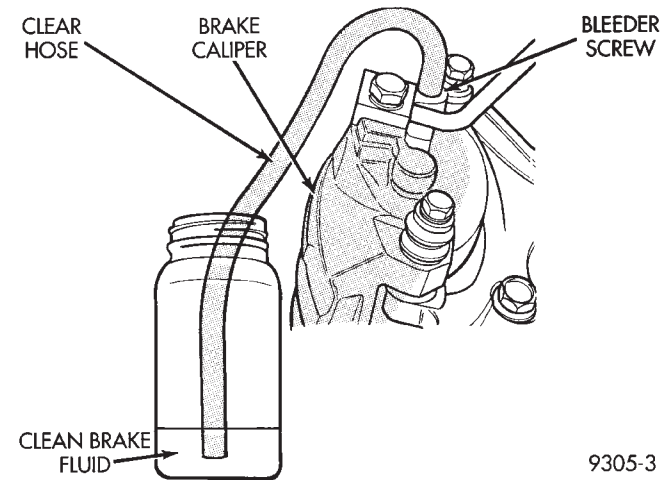

Fig. 32 Proper Method for Purging Air From Brake System (Typical)
(1) Attach a clear plastic hose to the bleeder screw and feed the hose into a clear jar containing enough fresh brake fluid to submerge the end of the hose (Fig. 32).
(2) Open the bleeder screw at least one full turn or more to obtain a steady stream of brake fluid.
(3) After approximately 4–8 ounces of fluid have been bled through the brake circuit and an air-free flow is maintained in the clear plastic hose and jar, close the bleeder screw.
(4) Repeat this procedure at all the remaining bleeder screws.
(5) Check the brake pedal travel. If pedal travel is excessive or has not been improved, some air may still be trapped in the system. Rebleed the brakes as necessary.
(6) Test drive the vehicle to verify the brakes are operating properly and pedal feel is correct.